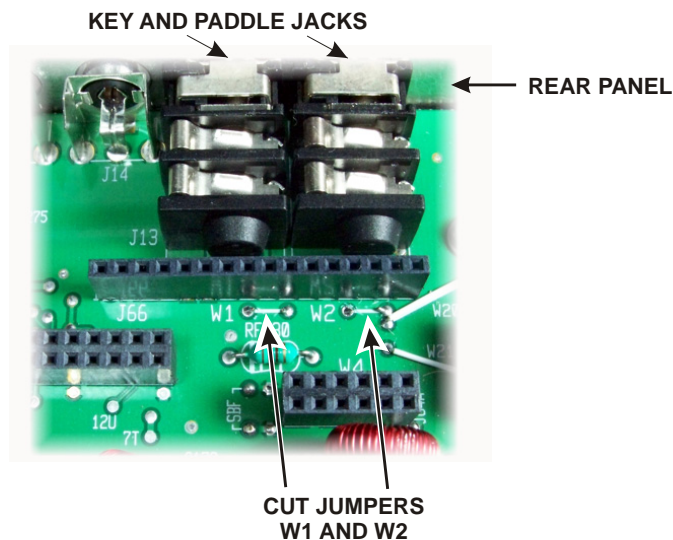

Figure 5. Locating Jumpers W1 and W2.
- Cut jumpers W1 and W2 on the RF board (the large board filling the bottom of the chassis). These jumpers are located under where you just removed the KIO3 boards (see Figure 5). **Take care to identify the correct jumpers. Do not cut nearby jumpers W20 or W21!** It is not necessary or desirable to unsolder the jumpers. Simply cut them with your diagonal cutters, taking care not to lose the bits of the jumper wire inside the K3, but be sure to cut the ends short. No more than 1/8" (3 mm) of jumper should be left at each solder pad to avoid the possibility of its shorting to a nearby circuit.